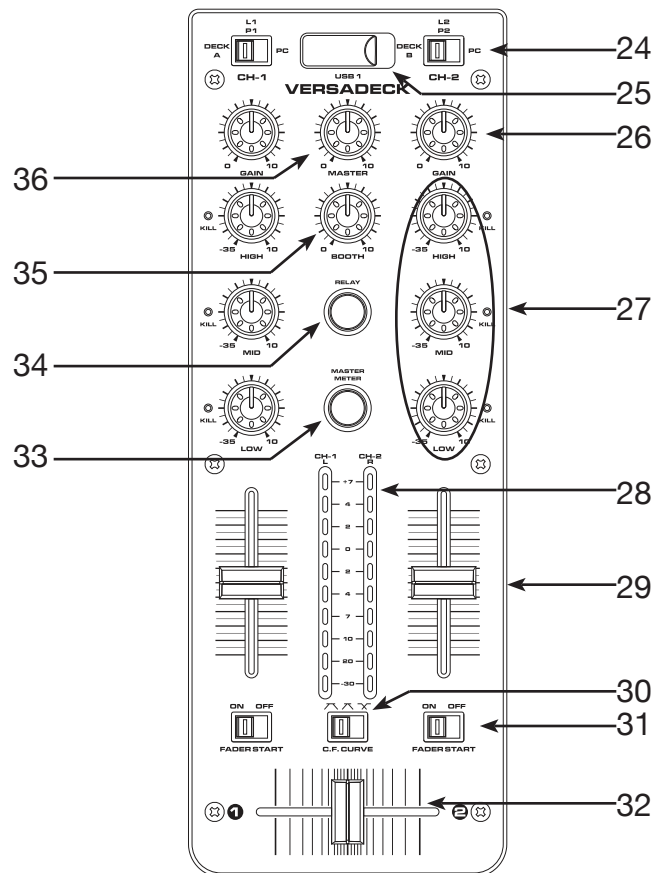

Figure 3
B. TOP UNIT MIXER CONTROLS (FIGURE 3)